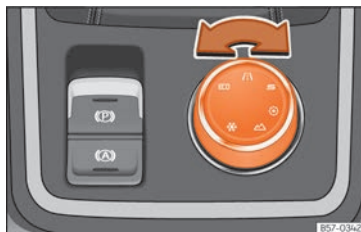

Fig. 157 Centre console: Driving Experience button.
- Turn the Driving Experience button to select the desired driving profile » **Fig. 157**.